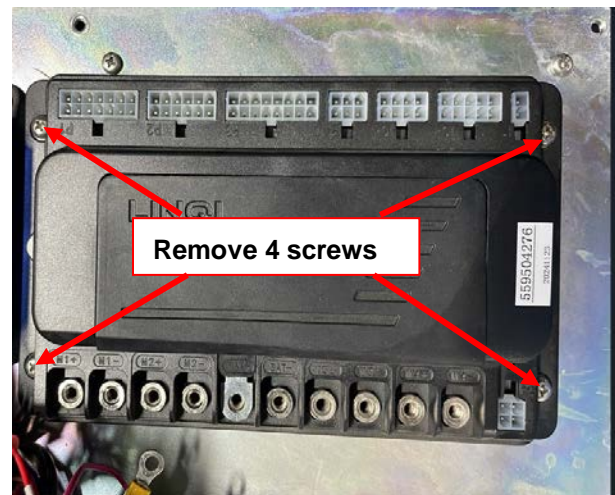

Figure 11
5. Remove 4 screws that are used to fix Main Controller (EB1) and take out Main Controller (Figure 11).